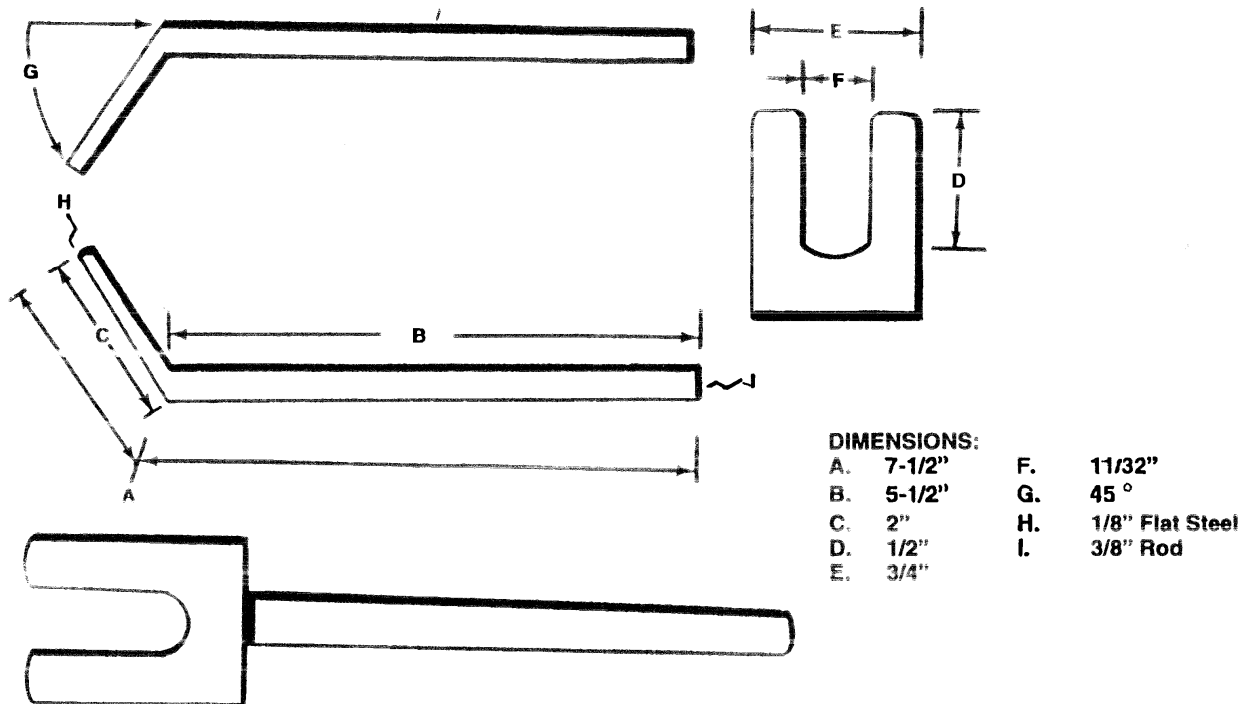

FIGURE 3-20
1. Using 1/8" flat steel, NSN 9515-00-204-3994, and 3/8" round rod, NSN 9510-00-189-0652, welded together, make a tool as shown in Figure 3-20.
2. Be sure that the open end of the fork (dimension F in figure 3-20) is no more than 1 1/32". This can be tested by using an old glow plug as a guide. The forked end must fit behind the hex head of the glow plug. This may require grinding the thickness down from 1/8" to 1/16" to ensure a proper fit.